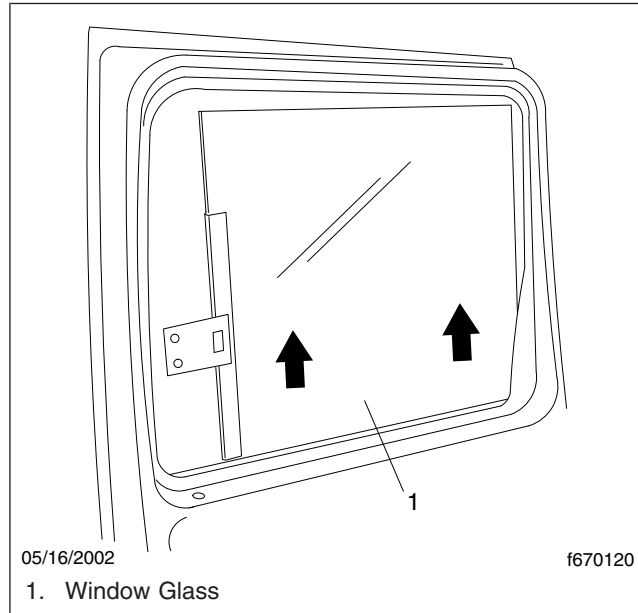

Fig. 14, Lifting the Door Window Out
21. Hold the glass and remove the clamp. Lower the window part way down into the door. Rotate the window, lowering the front edge down. See Fig. 14. Lift the window out of the door.